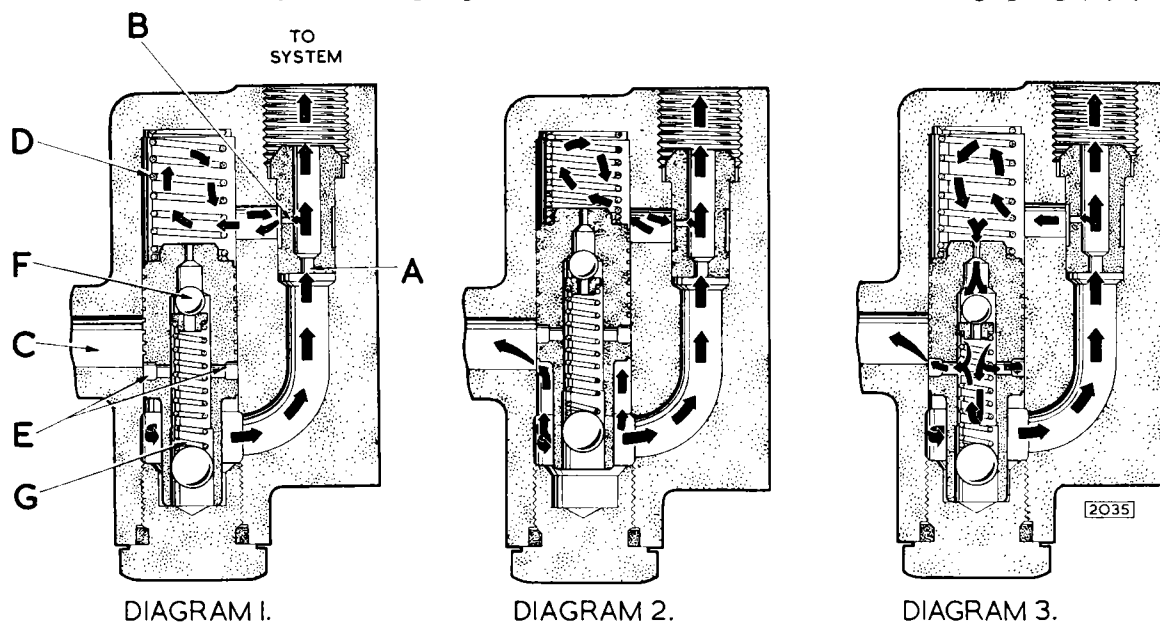

Fig. 10. Diagram showing the operation of the combined flow and relief valve
The pressure pump which provides hydraulic pressure in the system is a Hobourn-Eaton unit of the roller type and incorporates a combined flow and relief valve (Fig. 10). The pump is attached to the rear of the dynamo and is driven from the dynamo shaft by means of a rubber coupling.
When the pump comes into operation, and oil flow commences, a drop in pressure caused by the primary orifice (A, Dia. 1, Fig. 10) occurs. Oil at this lower pressure passes through the secondary orifice (B) and enters the chamber containing spring (D) (Condition